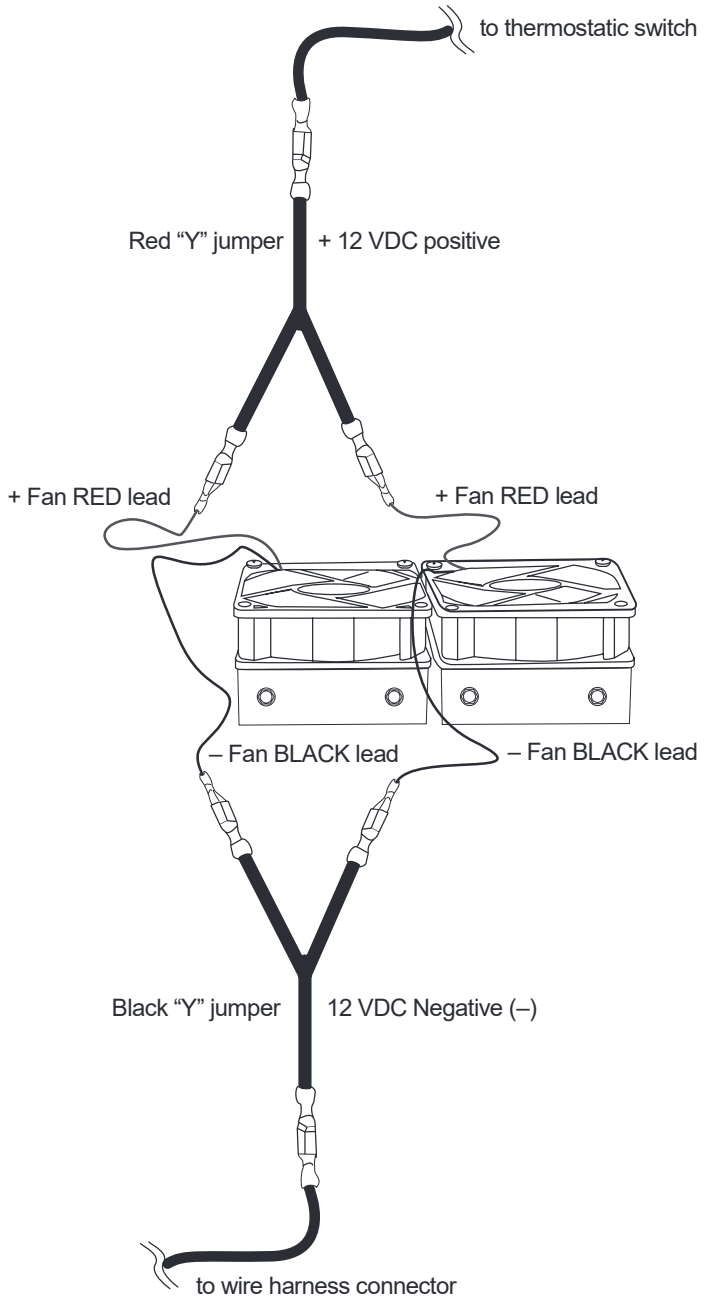

Figure 6-7. —Fans, wiring and connections.
1. Disconnect the existing fan positive (+) wire connector and negative (-) wire at their respective "Y" jumper. See Figure 6-7.
4. Reverse steps 3 to 1 and refer to Figure 6-7 to install replacement fan.